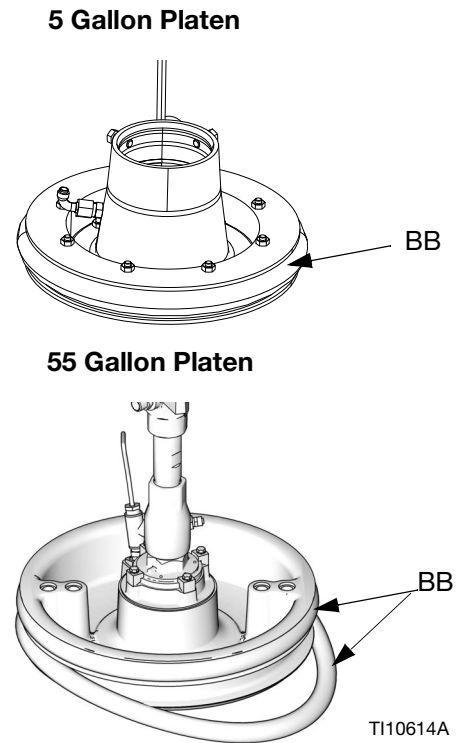

FIG. 43
1. Using a wooden or plastic tool to prevent damage to the Wiper (BB), clean all material from the seal grooves.
2. *Working from the bottom*, angle one Wiper (BB) over the back of the Platen (D). See FIG. 43.
3. Insert the Wiper (BB) in the top groove and run the front of the Wiper into the groove.
4. If using a 55 gallon Platen, insert the second Wiper (BB) in the lower groove and run the front of the Wiper into the groove.